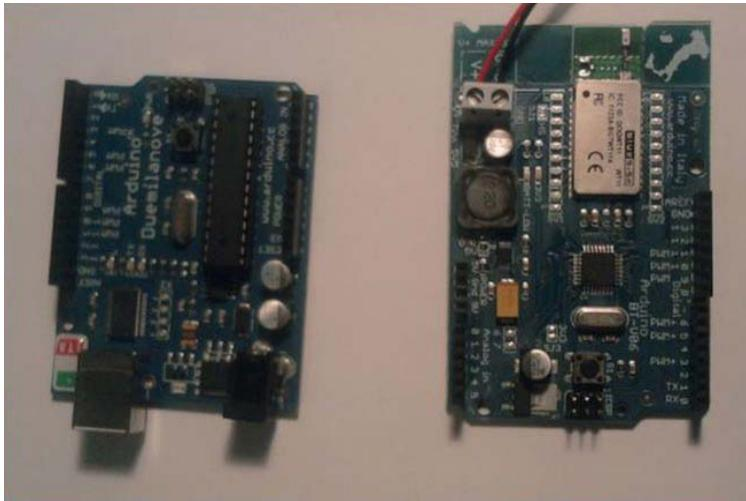

Figure 1-1. Arduino UNO (left) and Duemilanove (right)
- *Arduino Duemilanove or UNO:* You can use either the Duemilanove or the UNO micro-controller for this book (see Figure 1-1). They have multiple I/O ports for sensors and motors. We will be using these I/O points to control and keep track of the various projects in this book.